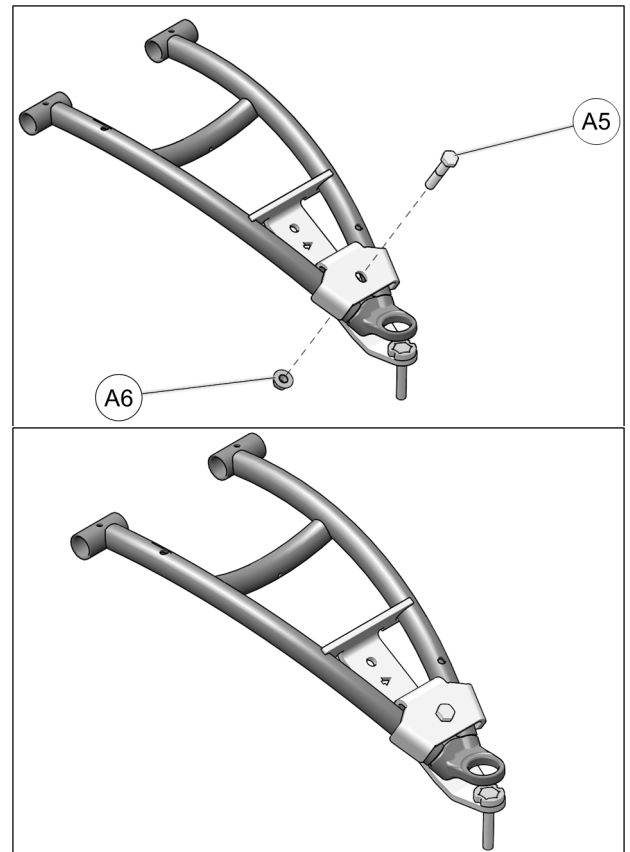

Fig. 19
- Insert the M10x55mm bolt (A5) through the top and secure the two parts together with the nut (A6) provided. Tighten assembly to 50 N•m [37 lb•ft] of torque. See Fig. 19